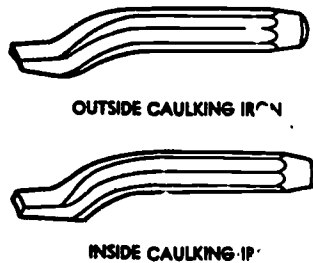

Fig 1-77. Outside and inside caulking irons.
- **Caulking irons.** Figure 1-77 shows outside and inside caulking irons. The inside caulking iron will insure that the lead joint makes a tight fit against the spigot end of the pipe, while the outside caulking iron will insure that the lead joint makes a tight fit against the hub end of the joining pipe. These caulking irons are used to drive the poured lead or lead wool into a joint (to be discussed later).